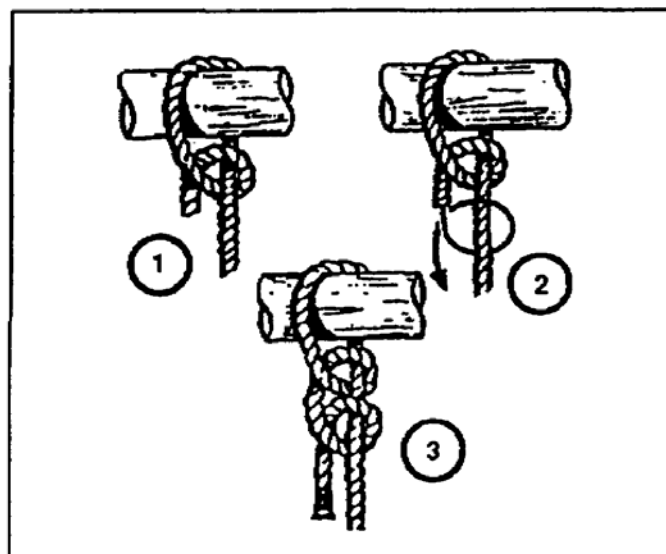

Figure 4-26. Two half hitches
e. Two Half Hitches. Two half hitches (Figure 4-26) are used when there is a need for a quick way to tie a rope to a timber. Two half hitches are especially useful for securing the running end of a rope to the standing part. If the two hitches are slid together along the standing part to form a single knot, the knot becomes a clove hitch.